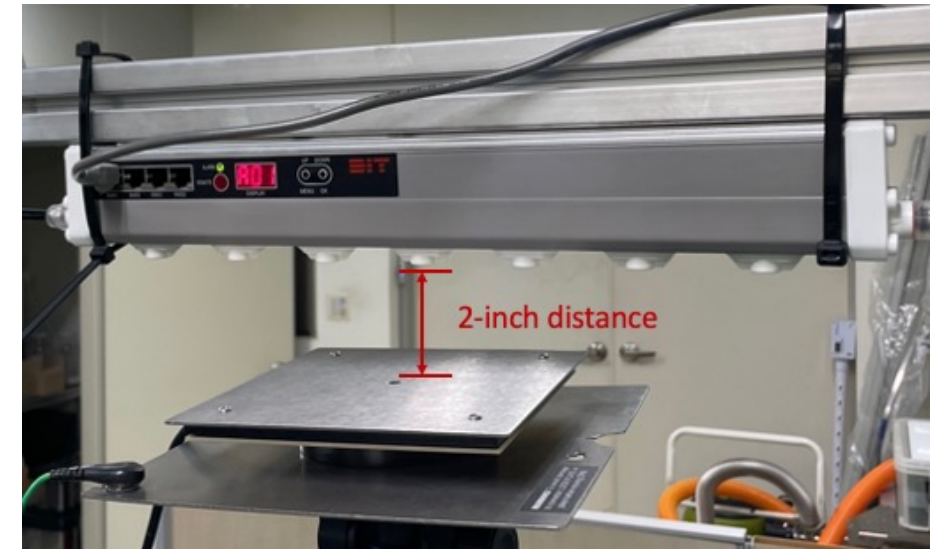

Figure 14 - HF AC Ionizer at 2-inch distance
- High Frequency(HF) AC Ionizer Test by CPM Instrument
- HF AC Bar Ionizer has set at 12-inch and 2-inch distances from CPM plate and make measurements in Figure 14.